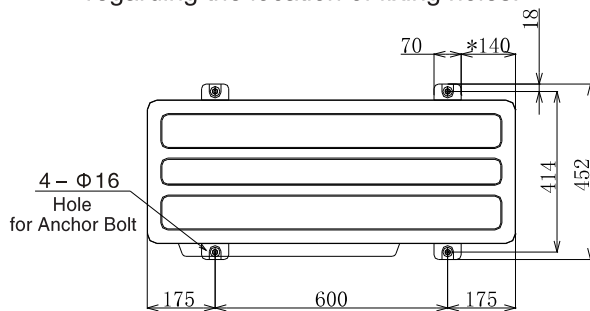

Fig. 4.3 Position of Anchor Bolts
- (2) When installing the outdoor unit, fix the unit by anchor bolts. Refer to Fig. 4.3 regarding the location of fixing holes.